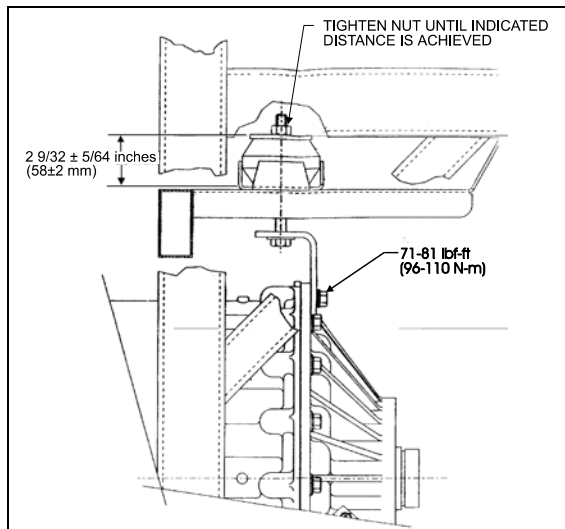

FIGURE 17: RUBBER DAMPER TOLERANCE 07014
- a) Install transmission bracket (Fig. 17), tighten to 71-81 lbf•ft (96-110 N•m).
- c) Respect damper tolerance of 58 mm (Fig. 17)